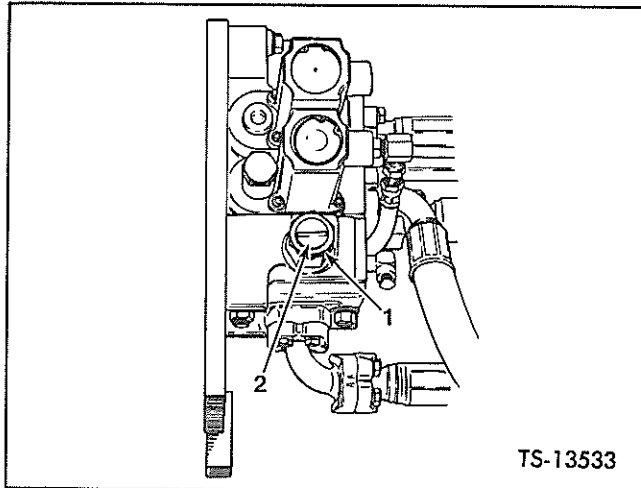

Fig. 27. Adjust Main Hydraulic Pressure
5. Loosen locknut, Item 1 then turn adjusting screw, Item 2, Figure 27, in increments of one half revolution or less, clockwise to increase pressure or counter-clockwise to decrease pressure, tighten locknut and retake reading. Repeat this procedure until gauge reads as specified in Specifications and Service Data section at rear of manual.